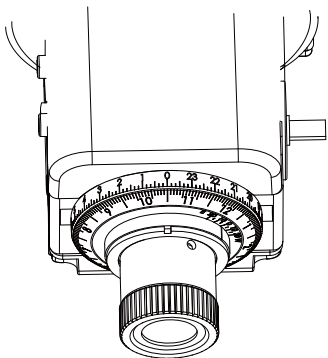
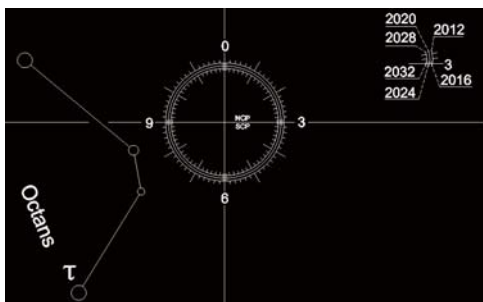

Fig 35
Fig 36
6. Turn the **Date Graduation Circle** to align Oct 31 to the 0 of the **Time Graduation Circle**. Then hold the **Date Graduation Circle** and turn the eyepiece/Mounting Platform to align the **Time Meridian Indicator** to the 0 of the **Time Meridian Circle** (Fig 35). Then, when looking through the eyepiece, you should see the pattern aligned as shown in Fig 36. If the pattern is oriented differently, then scales need readjustment. To readjust, turn the **Date Graduation Circle** to align Oct 31 to the 0 of the **Time Graduation Circle**. Then hold it and turn the eyepiece/mounting platform to orient the pattern in the position shown in Fig 36. Loosen the **Time Meridian Indicator Calibration Screw** and move the meridian indicator to align it to the 0 of the **Time Meridian Circle** without turning the **Date Graduation Circle** and Eyepiece/Mounting Platform. Tighten the Time Meridian Indicator calibration screw. See through the eyepiece. Now the pattern should still be in the right position.